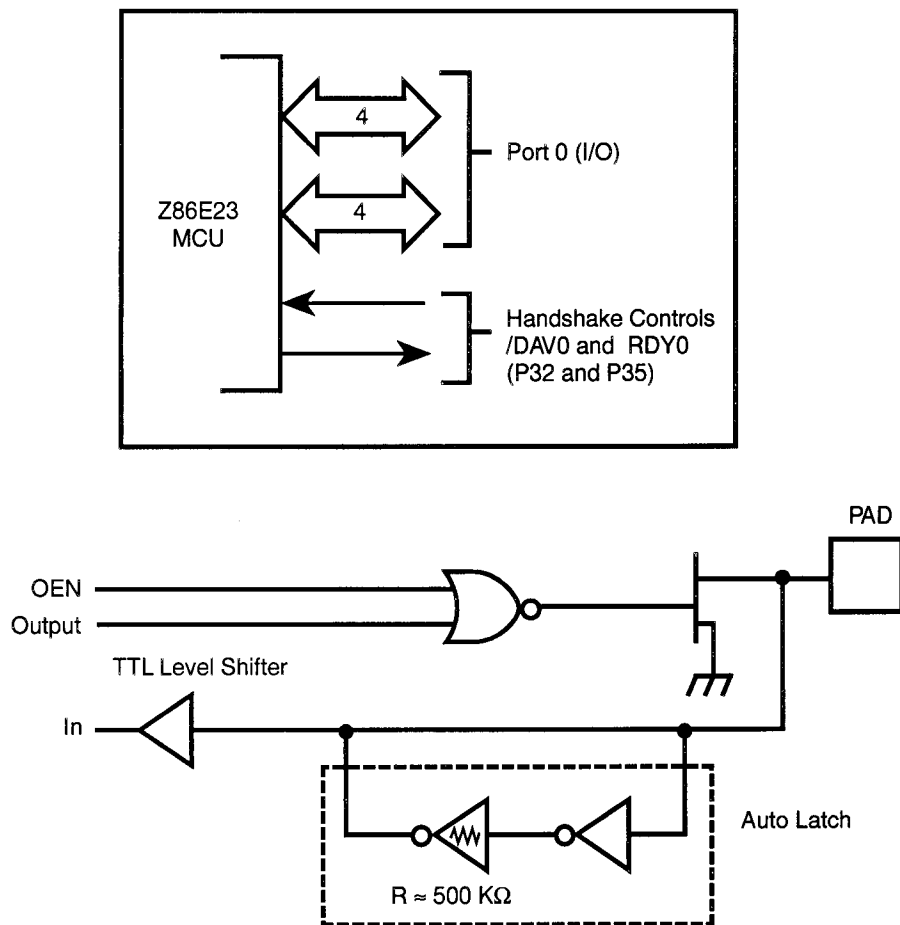

Figure 8. Port 0 Configuration
**Port 0 (P07-P00).** Port 0 is an 8-bit, nibble-programmable, bidirectional, NMOS-compatible I/O port. These eight I/O lines can be configured under software control as a nibble input port, or as a nibble open-drain output port. When used as an I/O port, inputs are standard NMOS and outputs are open-drain (Figure 8).